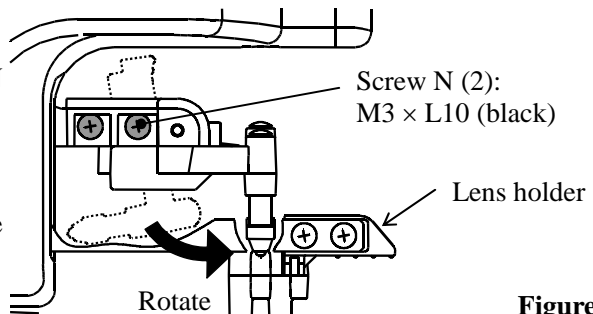

Figure 2
- 2) Lower the lens holder. (See Figure 2)